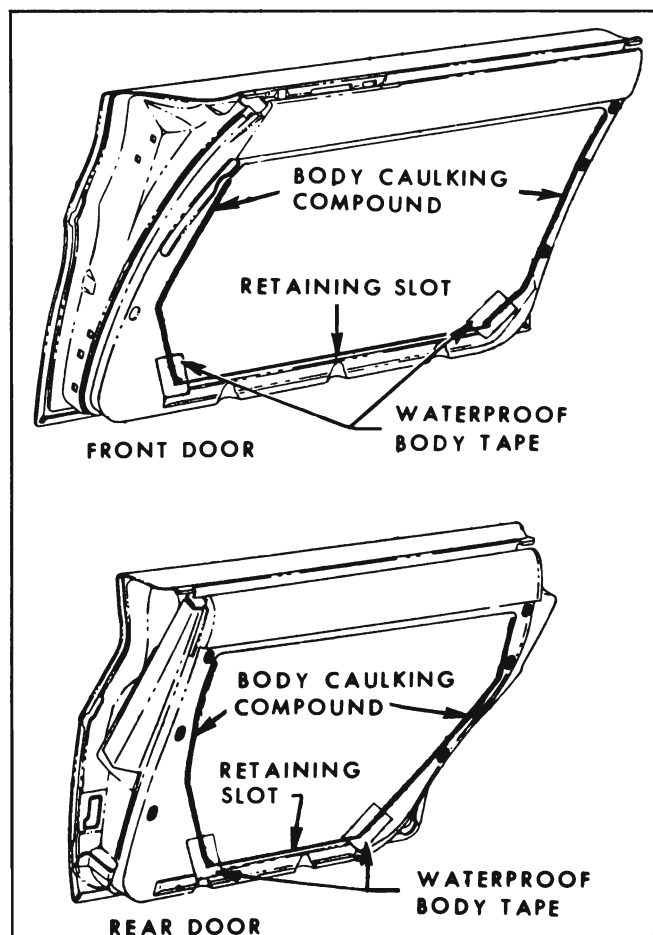

Figure 13-29—Water Deflector Installation
2. Remove strips of waterproof body tape securing lower corners of water deflector. See Figure 13-29.
5. Seal lower corners of deflector with 2" or 2 1/2" waterproof body sealing tape. See Figure 13-29.